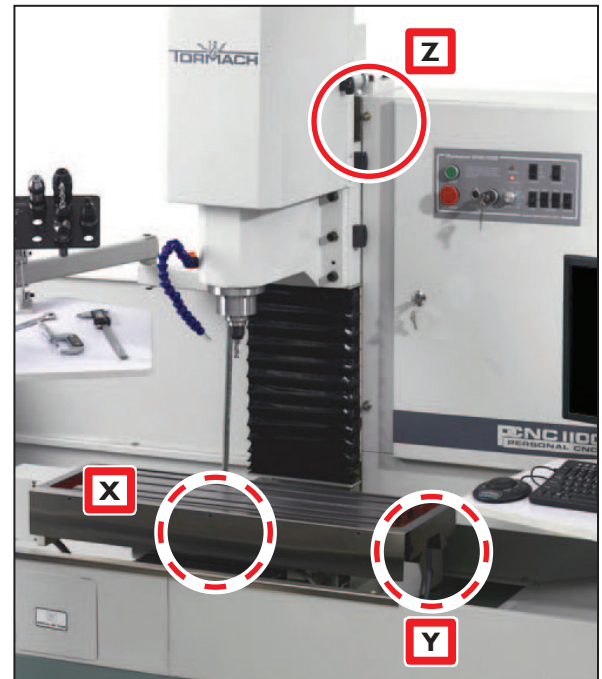

Figure 3.18
Limit switches prevent the mill from exceeding its travel limits and provide a reference location during the mill homing procedure. There are three limit switches, one for each axis of motion (X, Y, and Z). Refer to **Figure 3.18** for the location of each limit switch. If a limit switch is triggered, the mill is placed in a reset state. Verify proper limit switch function as follows:
2. Manually depress X, Y, and Z limit switches by hand (see **Figure 3.18**).